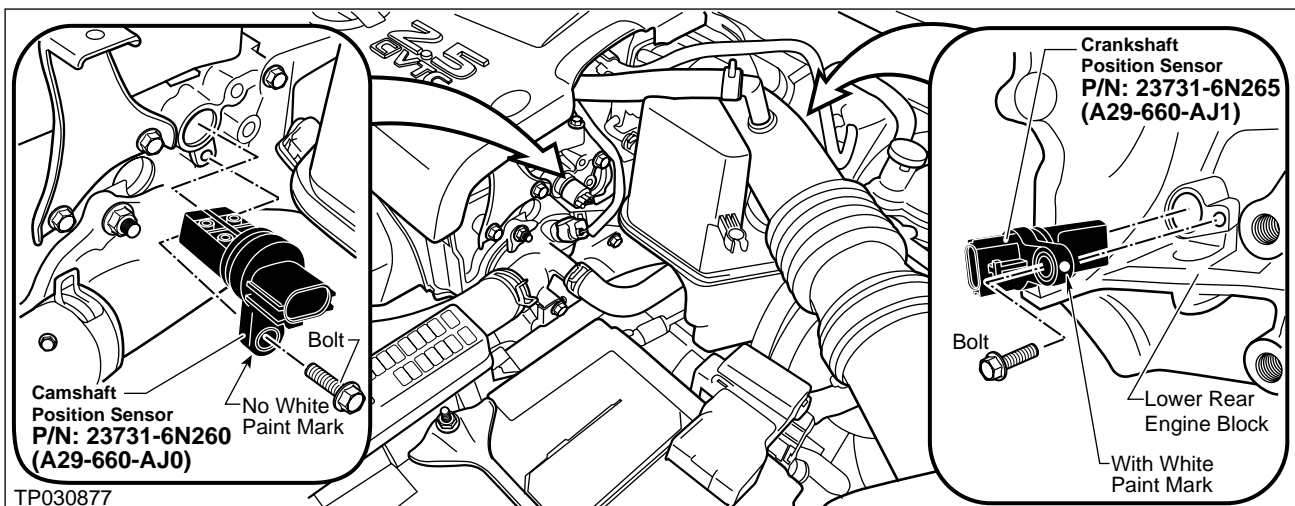

Figure 7
\* This sensor has a white paint mark on it (see Figure 7).
3. Locate the **Camshaft Position Sensor** and **Crankshaft Position Sensor** (see Figure 7).